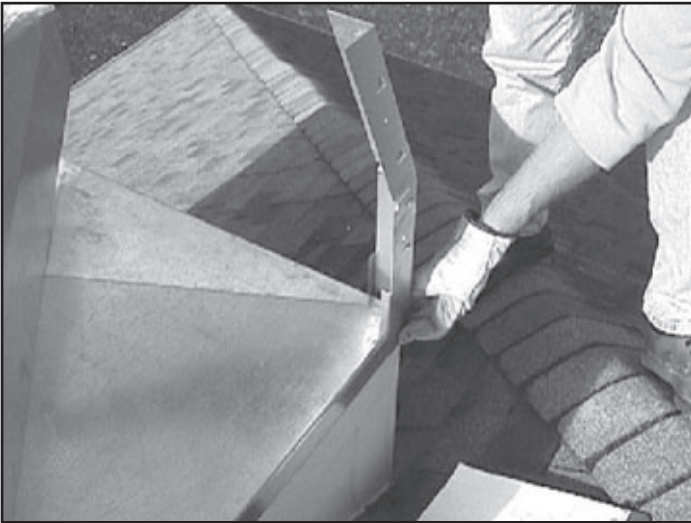
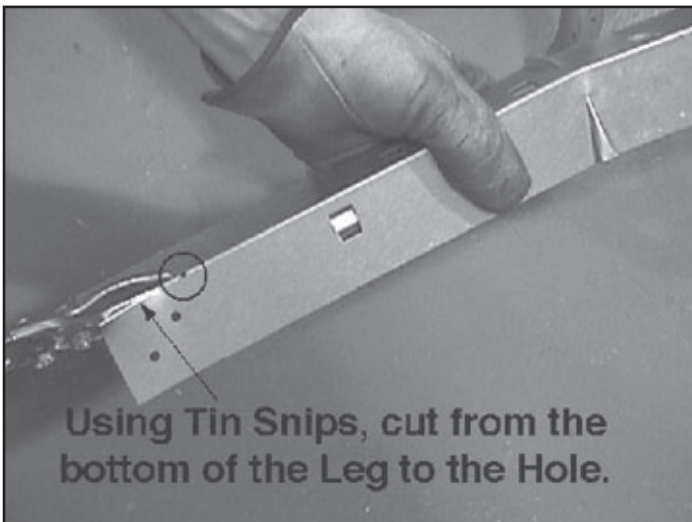

Figure 7 Secure the Legs - Side of Chase Top
Figure 9 Cut Legs to Size
- B. Determine if the legs will be secured to the side or the top of the chase. See Figures 7 and 8. Figures 9 and 10 illustrate how to prepare the legs for mounting the shroud to the chase top.